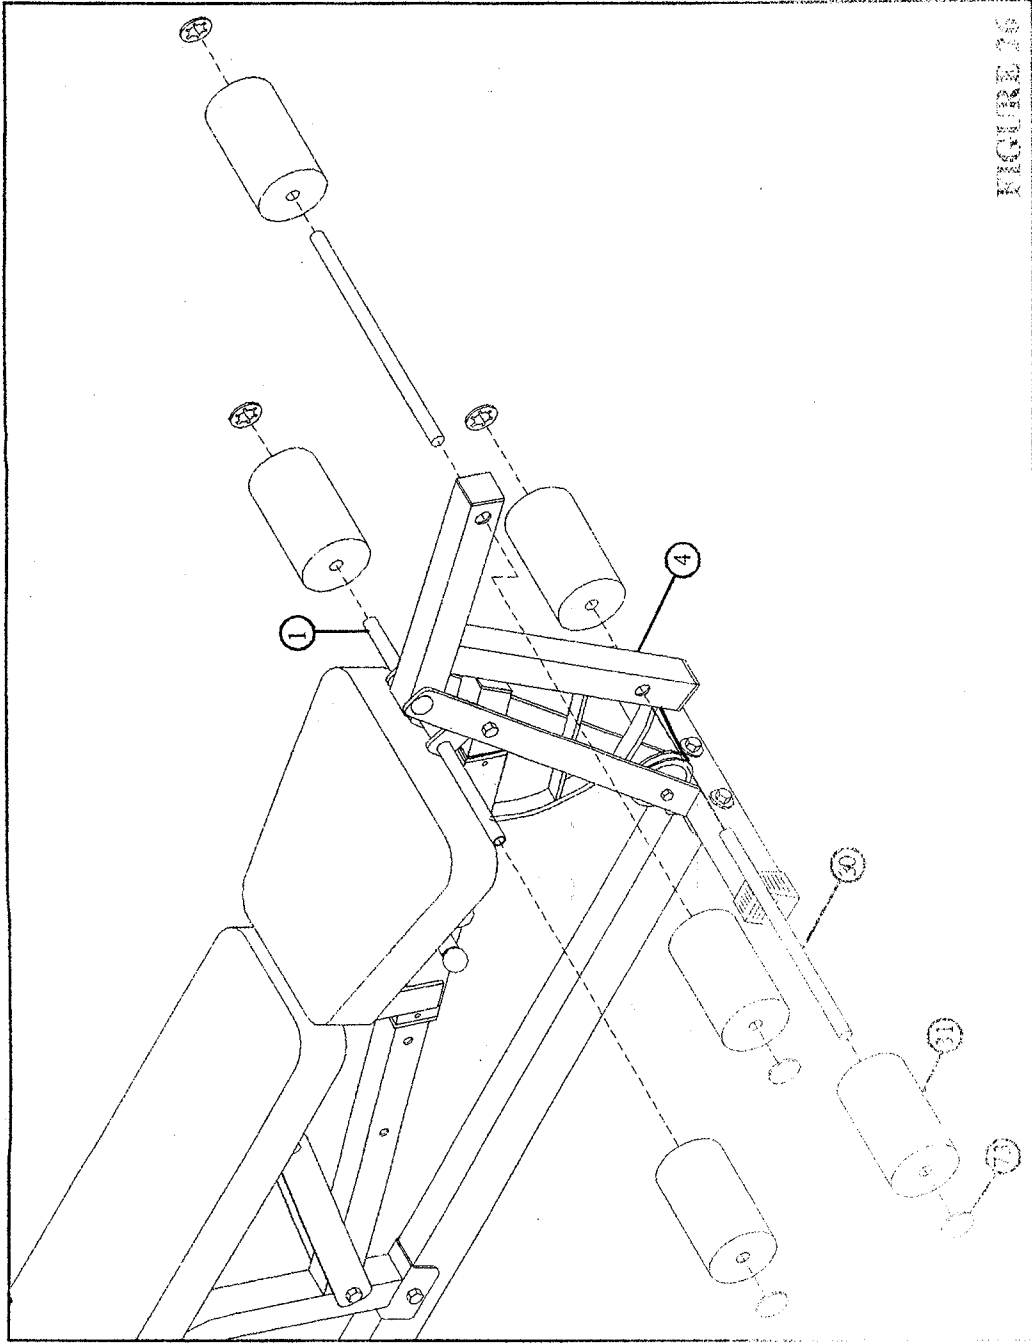

FIGURE 26
- Assemble four ROLLER PADS (31) to the LEO CURL/EXTENSION (4) as shown on FIGURE 26 using two 16" TUBES (30) and four STARLOCK COLLARS (73).
- Assemble two ROLLER PAD (31) to the tubes on FRAME SUPPORT (1) using two STARLOCK COLLARS (73) as shown in FIGURE 26.